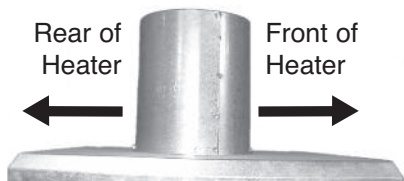

Fig. 7
- Note: Brackets are positioned underneath the collar adapter to capture the smaller model, See Fig. 6. Also note the orientation of the adapter on the heater as shown in Fig. 7.